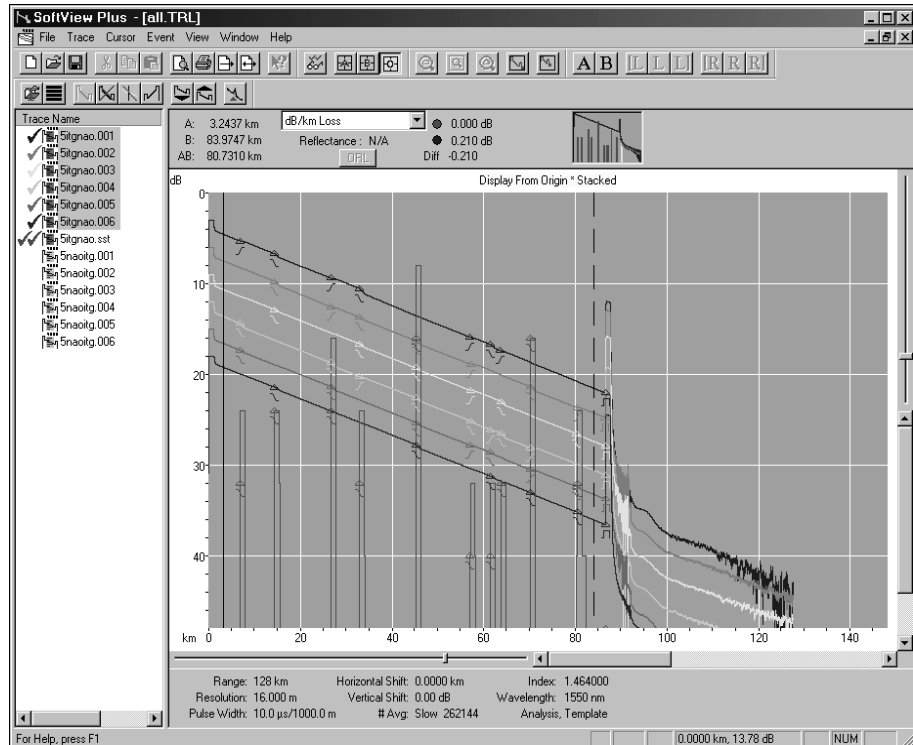

Figure 12-3: Smart Splice Template Trace
- Click **OK** to create the smart template trace, as shown in Figure 12-3. The printed report is shown in Appendix C.